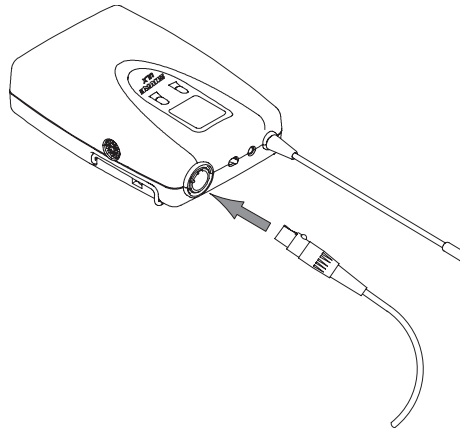

FIGURE 21
1. If you are using a Bodypack system with a Shure lavalier microphone or instrument adapter, plug the microphone cable or instrument adapter cable into the transmitter input connector, as shown in Figure 21.